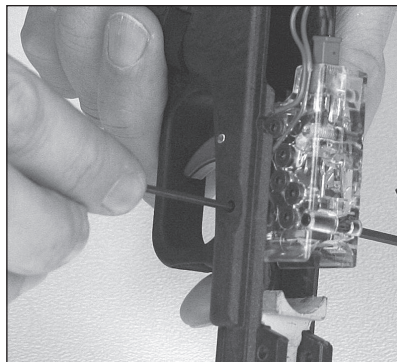
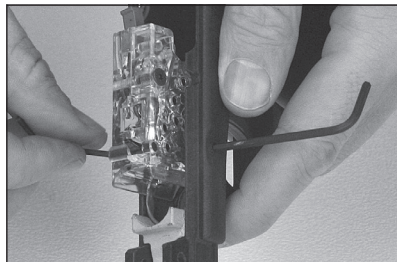

Figure 32: First Loosen the Sear Engagement Cap Screw
Figure 34: Adjust the Sear Engagement Cam
- First loosen the sear engagement cap screw as show in Figure 32. This is the only cap screw that is not visible and is located behind the frame.
- Adjust the sear engagement cam as shown in Figure 34. This is the only cam that is not visible. As shown in Figure 32 by turning the cap screw.